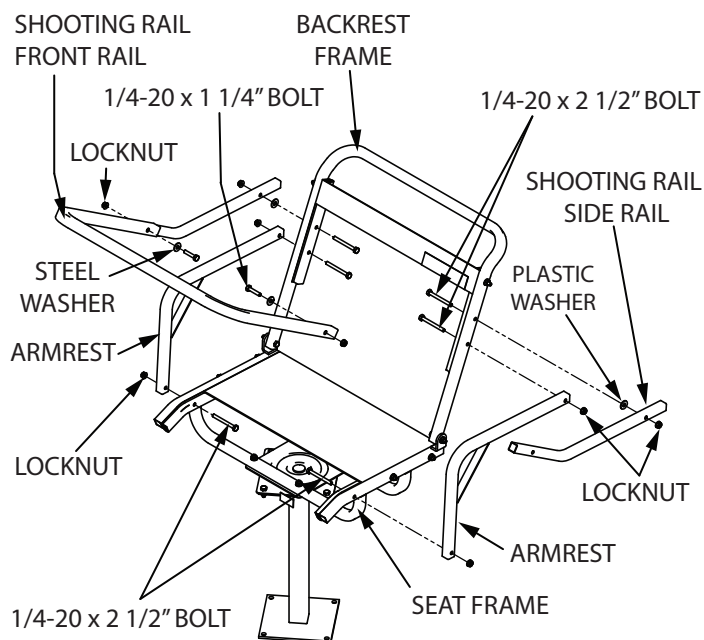

FIGURE 8
9. Attach the (2) armrests (17635) to the seat frame and backrest frame using (4) provided 1/4-20 x 2-1/2” bolts and locknuts. **SEE FIGURE 8**
10. Using the longer end, attach the (2) shooting rail side rails (TP142) to the backrest frame using (2) provided 1/4-20 x 2-1/2” bolts, locknuts and plastic washers. **SEE FIGURE 8**
11. Attach the shooting rail front rail to the shooting rail side rails using (2) provided 1/4-20 x 1-1/4” bolts, lock nuts and steel washers. Side rails should be inserted into the front rail and bolts should go through both rails. **You must now tighten all nut and bolt combinations securely; DO NOT CRUSH TUBING WHEN TIGHTENING! SEE FIGURE 8**